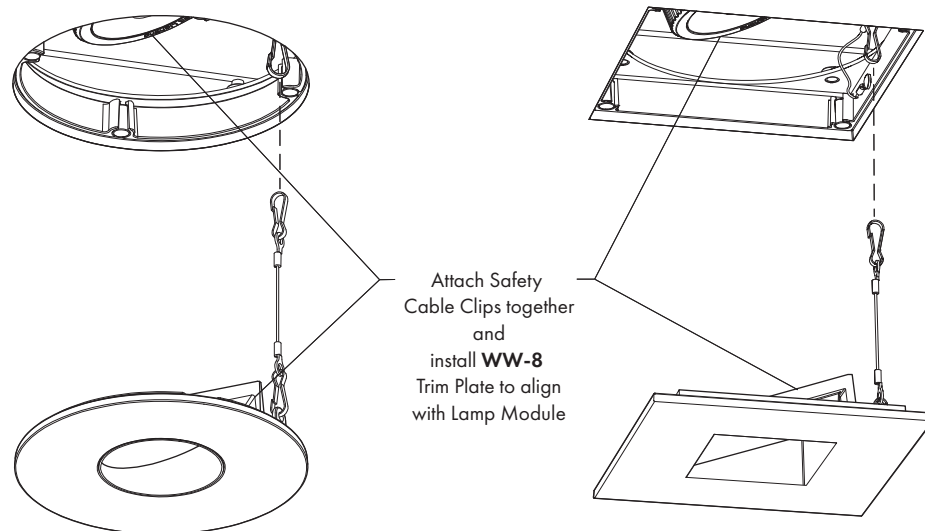

FIG 13.2 Align and Install WW-8 Trim Plate
STEP 3 Install WW-8 Trim Plate to be aligned to Lamp Module - **FIG 13.2**.